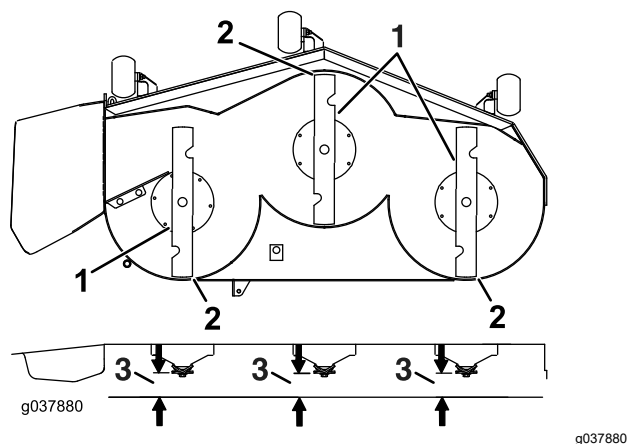

Figure 107
7. Check the front-to-rear blade level (Figure 107). Ensure the front blade tip is lower than the rear blade tip as shown in the block height and rake table. If adjustment is needed, continue with this procedure.